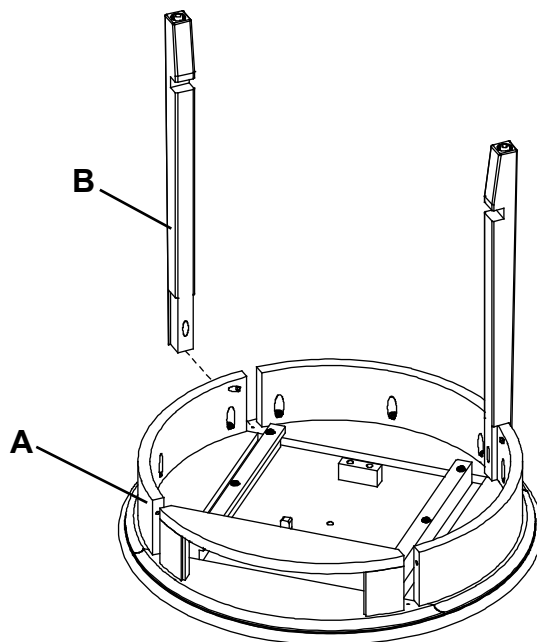

Fig. 4
4. Place a second Leg (B) in a corner of the Top Assembly (A) and using the pocket hole as a guide, secure the Leg (B) with one #8 x 1-1/4" Pan Head Screw (H). See Figure 4.